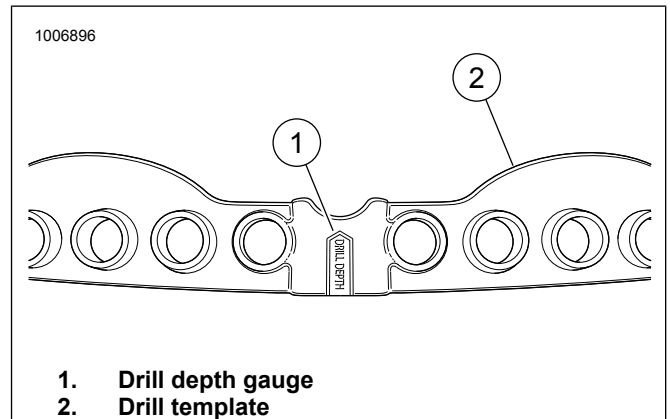

Figure 1.
5. See Figure 1. Locate drill depth gauge (1) on drill template (2).